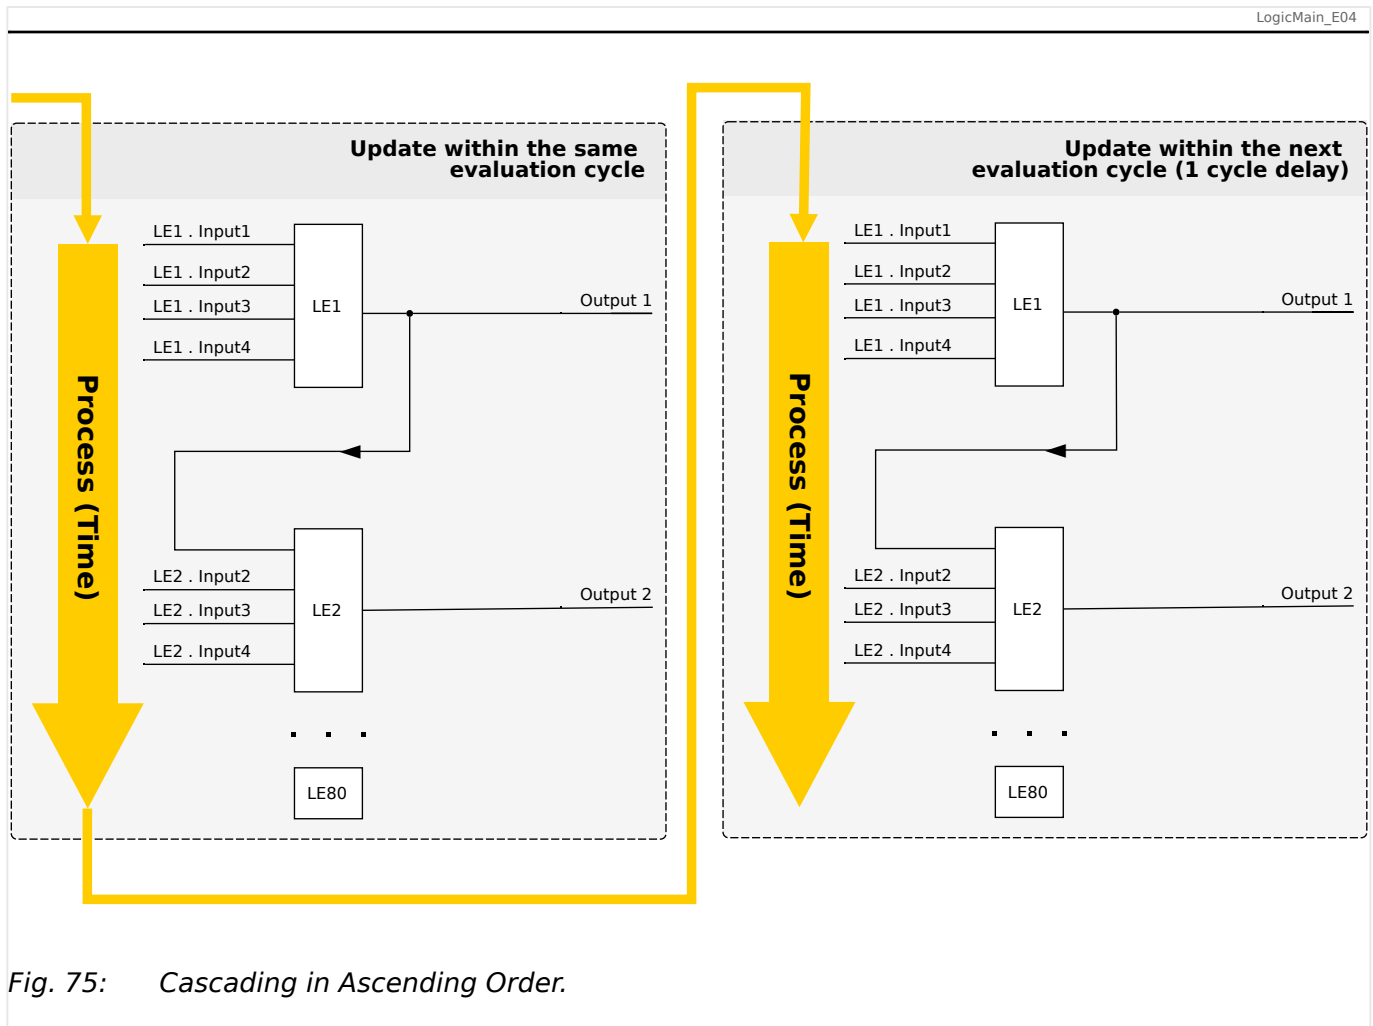
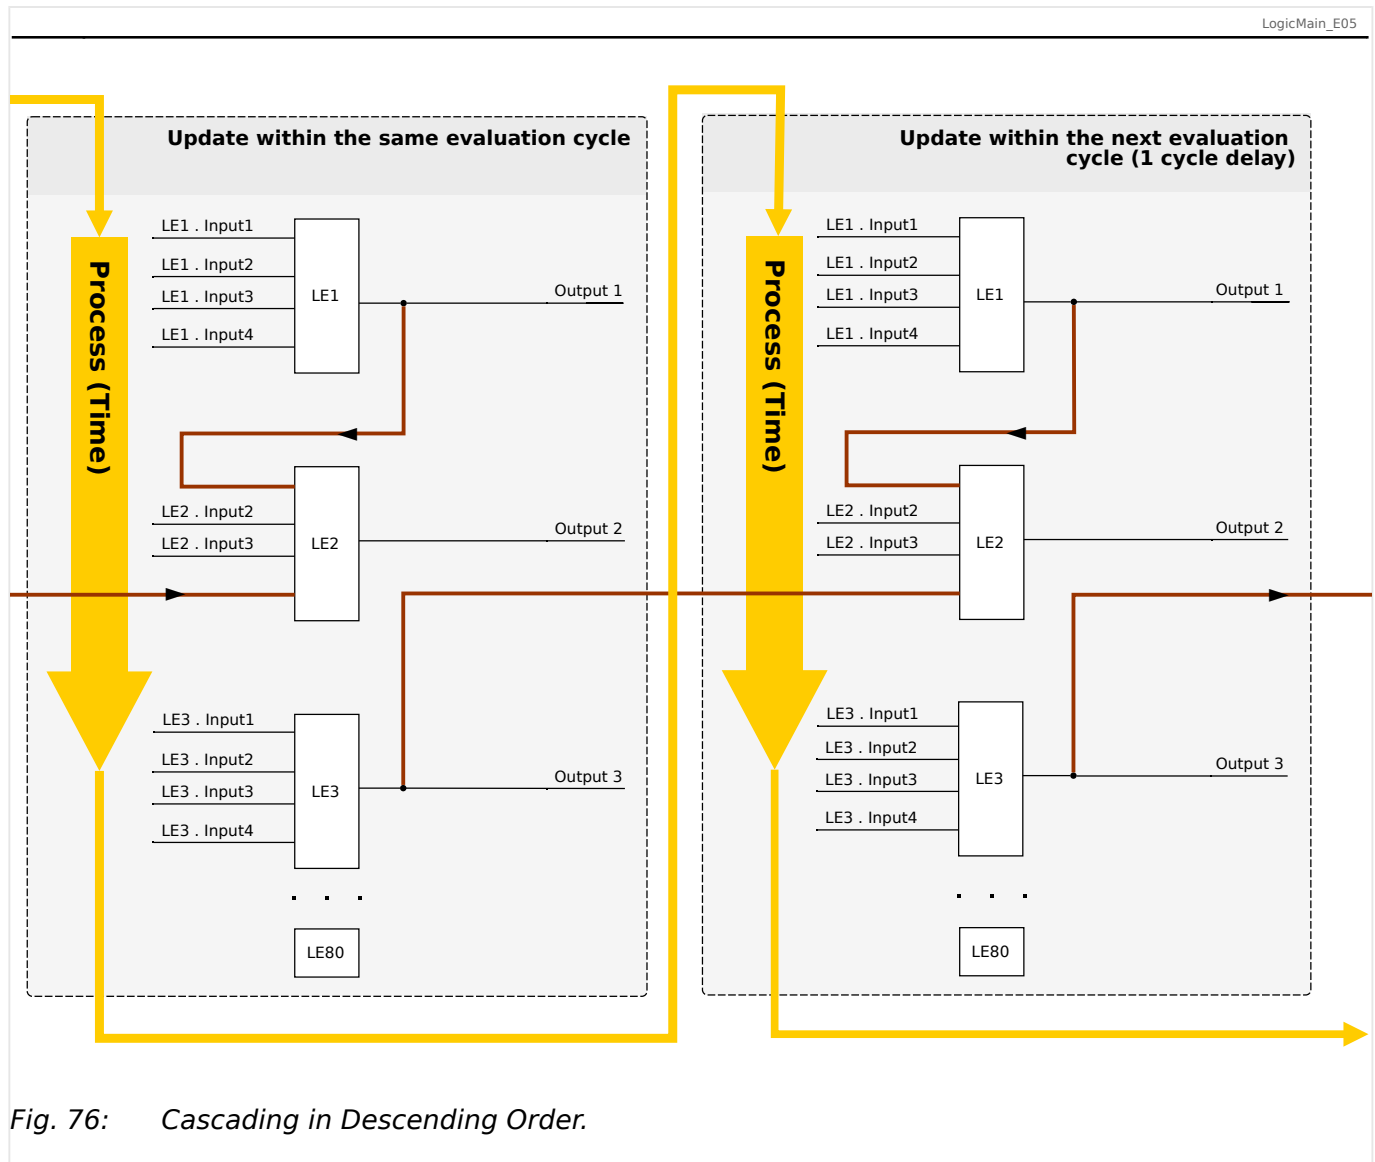

Fig. 75: Cascading in Ascending Order.
Fig. 76: Cascading in Descending Order.
- **Ascending** sequence means that some output is fed into the input of a logic equation with **higher** number. For instance, diagram  Fig. 75 below shows an example where the result of Logic Equation LE1 is used as an input of Logic Equation LE2.
- **Descending** sequence means that some output is fed into the input of a logic equation with **lower** number. For instance, diagram  Fig. 76 shows an example where the result of Logic Equation LE3 is used as an input of Logic Equation LE2.
Both ascending and descending sequences may be used and combined one with the other, with no immediate difference. However, due to the evaluation of all equations in ascending order the actual run-time values that are fed in at the input of an equation will have a different “age”, as is shown in  Fig. 75 and  Fig. 76 below.
In the example shown in  Fig. 76 above, “Logic Equation 2” uses the output states of two other equations, “Logic Equation 1” and “Logic Equation 3”. The result of “Logic Equation 1” is used in ascending order and has therefore been evaluated within the same process cycle. The result of “Logic Equation 3” is used in descending order and has therefore been evaluated in the previous process cycle.